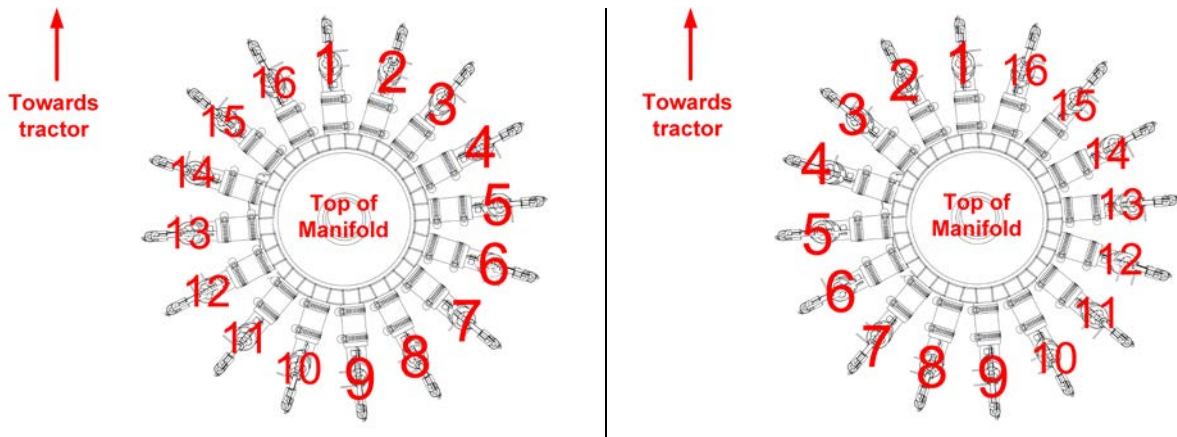

Figure 25: Default/clockwise order (left); counterclockwise order (right)
9. **Change run direction.** In manifold view, ports are displayed by default in clockwise order around the manifold, as shown in Figure 25. If you installed the sensors in counterclockwise order around the manifold, you can change the way the ports are displayed in the app. Next to Run Direction, tap the clockwise ↻ or counterclockwise ↺ symbol to change the run direction.